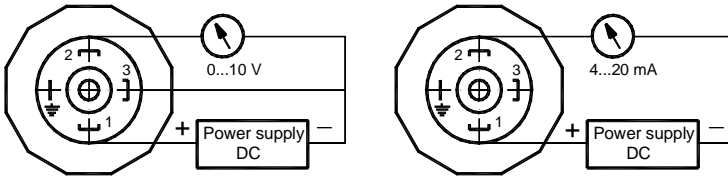
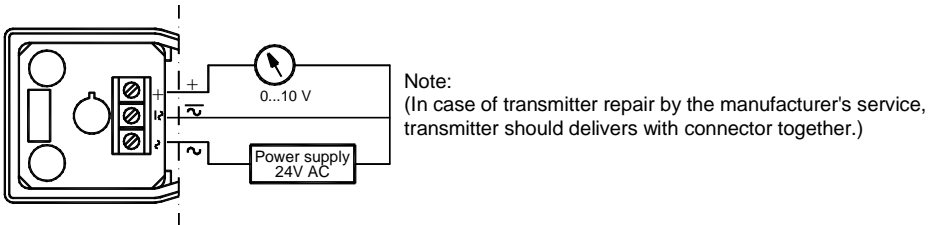

Fig.2a. Transmitter wiring diagrams for DC voltage supply.
Fig.2b. Transmitter wiring diagram for AC voltage supply.
5.2. Electrical connectors make in accordance with Fig. 2a for DC supply or Fig. 2b for AC supply.